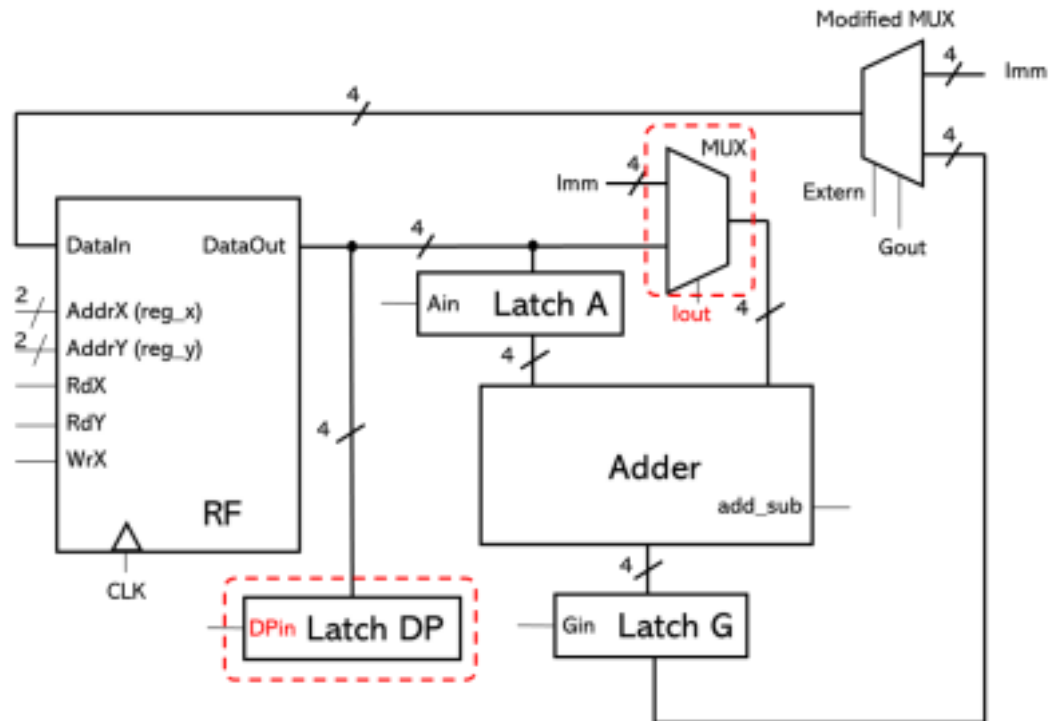
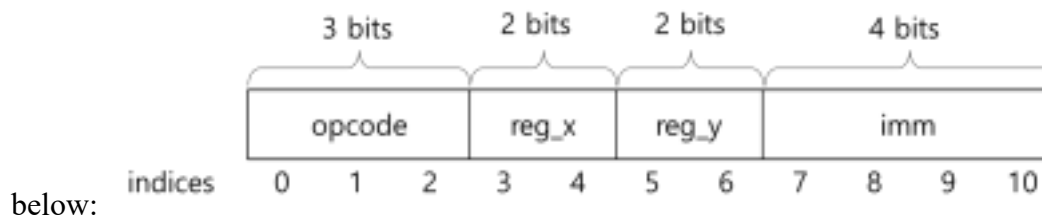

Figure 2. The modified datapath for Lab 3
Figure 3. Instruction Format
Given the new operations that we are looking to implement, it needs to change. To support the newly added instructions, we need to add two more Verilog modules as depicted in Figure 2. That is,
- (i) Based on the updated block diagram (Figure 2) and instruction format (Figure 3) which show the datapath support for the new operations, properly modify the module interface of l3_SM.v (TODO 1).